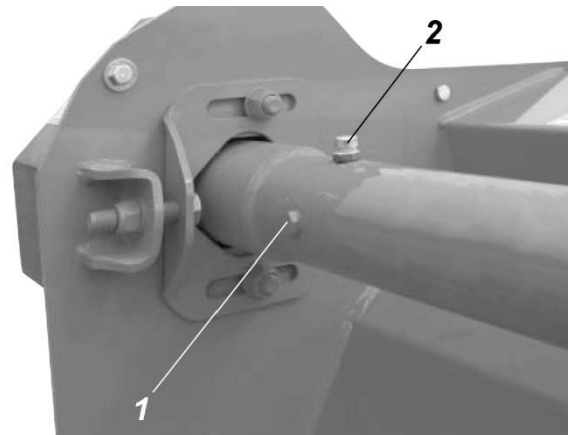

Figure 7.7
- 7.3.2.2. Check oil level in the two drive shafts. Oil should just come up to the lower edge of the oil level plug, see Figure 7.7; if you need to top up, use the vent cap, see Figure 7.7. Use EP90 or equivalent grade oil.